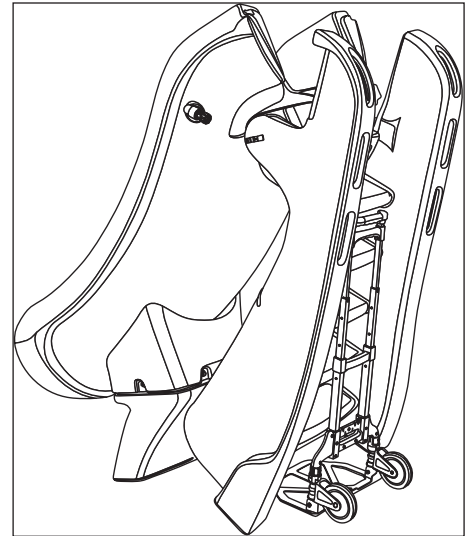

Figure 3
1. Place the provided dolly under the bottom step of the ladder as shown in **Figure 3**.
See Article 5 contained in ANSI/APSP/ICC-5 2011 STANDARD FOR RESIDENTIAL INGROUND SWIMMING POOLS and refer to FIGURE 3 and Table I for Minimum Water Envelope Dimensions AB, BC and Width at Point C.